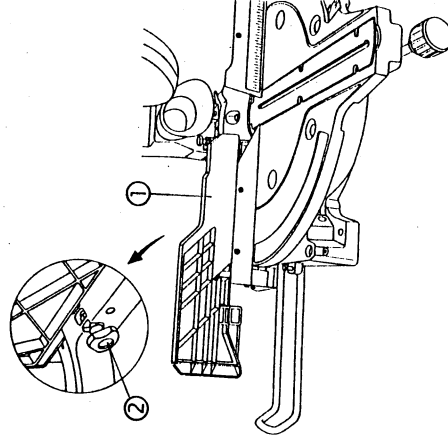

Fig. 8
3. For crown moulding cut, turn the Extension Fence ① close to the saw blade. Tighten the lock knob ②. (Fig. 8)